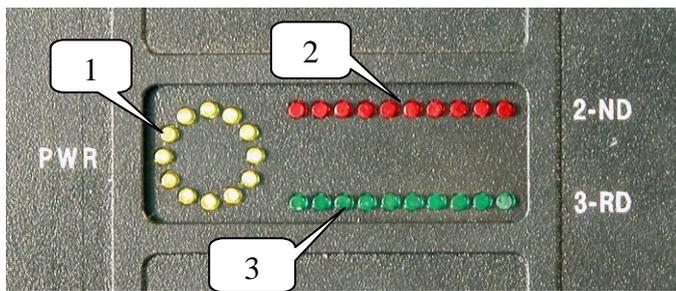

Fig.2
4.1. The transceiver antenna unit with built-in LED indicators (shown in Fig. 2) is used for:
- Indication of the probing signal levels (1) as well as of the 2nd (2) and 3rd (3) harmonics levels (Fig. 2).